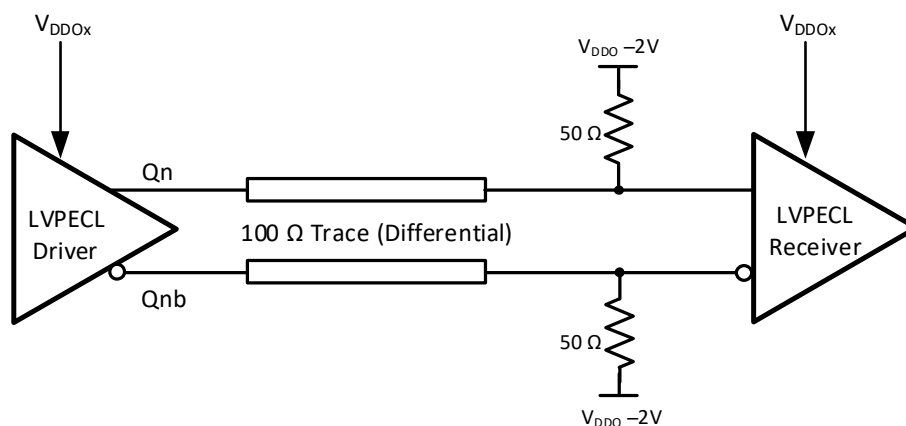
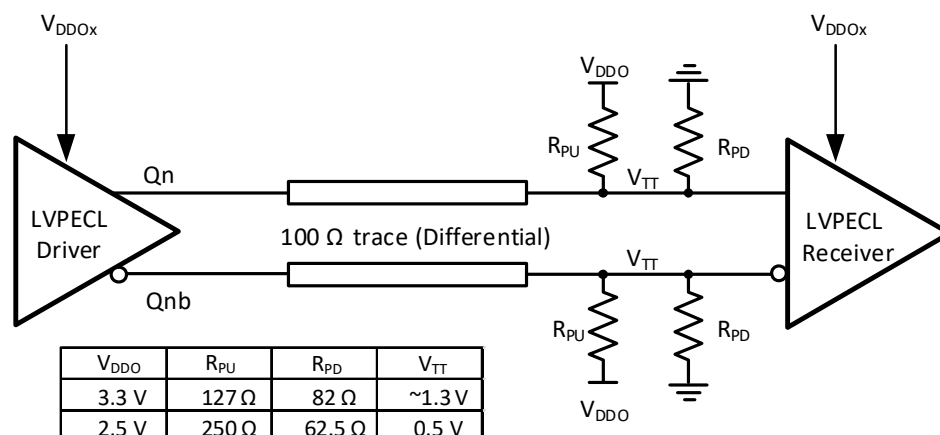

Figure 21. DC-Coupled LVPECL Clock Output Termination
Figure 22. DC-Coupled LVPECL Clock Output Termination, Thevenin Equivalent
For dc-coupled operation of an LVPECL driver, terminate with  $50\ \Omega$  to  $V_{DDO} - 2\text{ V}$ , as noted in Figure 21 below. Alternatively, terminate with a Thevenin equivalent circuit as shown in Figure 22 on page 20 for  $V_{DDO}$  (output driver supply voltage) = 3.3 V and 2.5 V. In the Thevenin equivalent circuit, the resistor dividers set the output termination voltage ( $V_{TT}$ ) to  $V_{DDO} - 2\text{ V}$ .
**Note:** This Thevenin circuit is different from the dc-coupled example in Figure 22, since the voltage divider is setting the input common-mode voltage of the receiver.